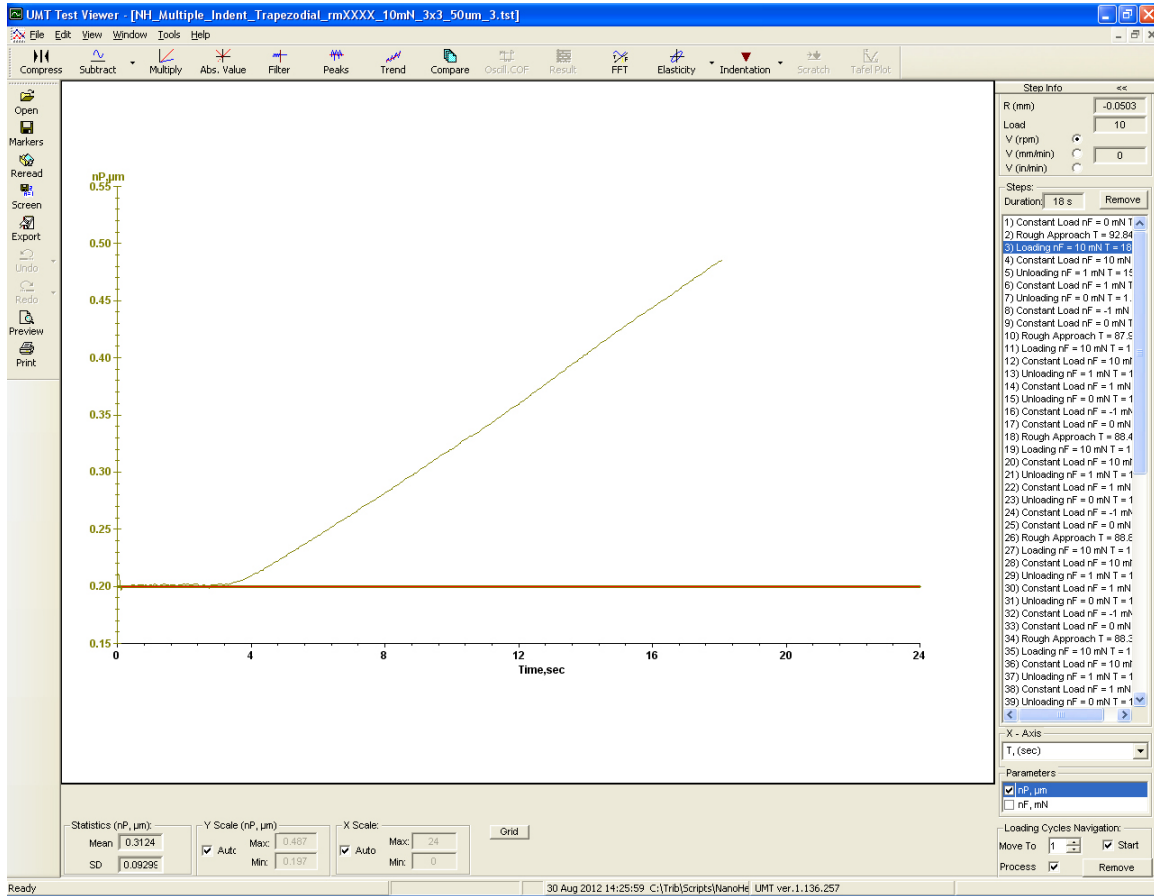

Figure 29: Properly set touch point.
- 7) Figure 29 shows an individual indent's nP vs. time graph after data processing, the red line corresponds to the touch point (where the nP starts to rise).